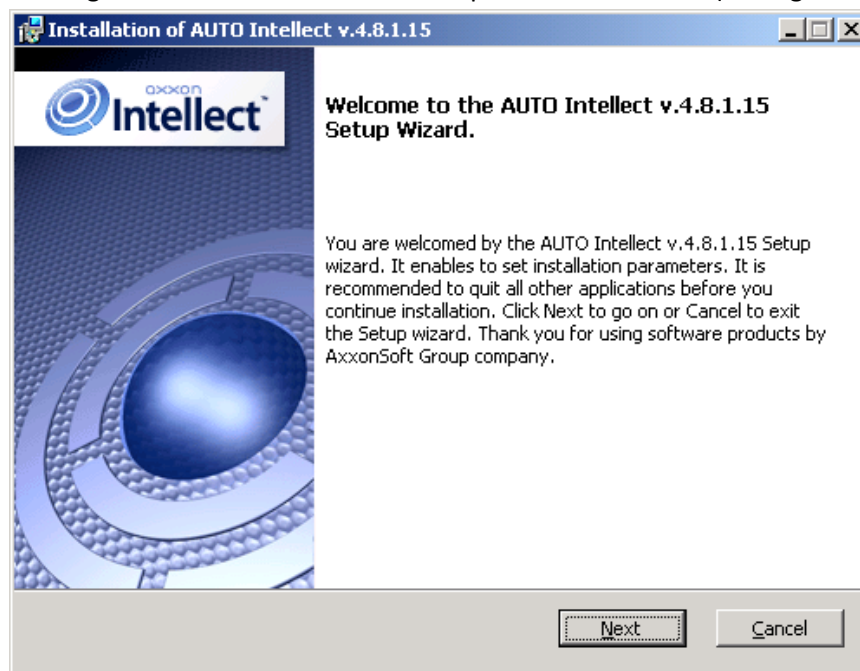

Fig. 6.3-1 Startup dialog box of program installation
Step 2. Welcome dialog box of installation appears with «Welcome to the AUTO Intellect v.4.8.1.15 Setup Wizard» message. To continue the installation process click “Next” (see Fig. 6.3-1)